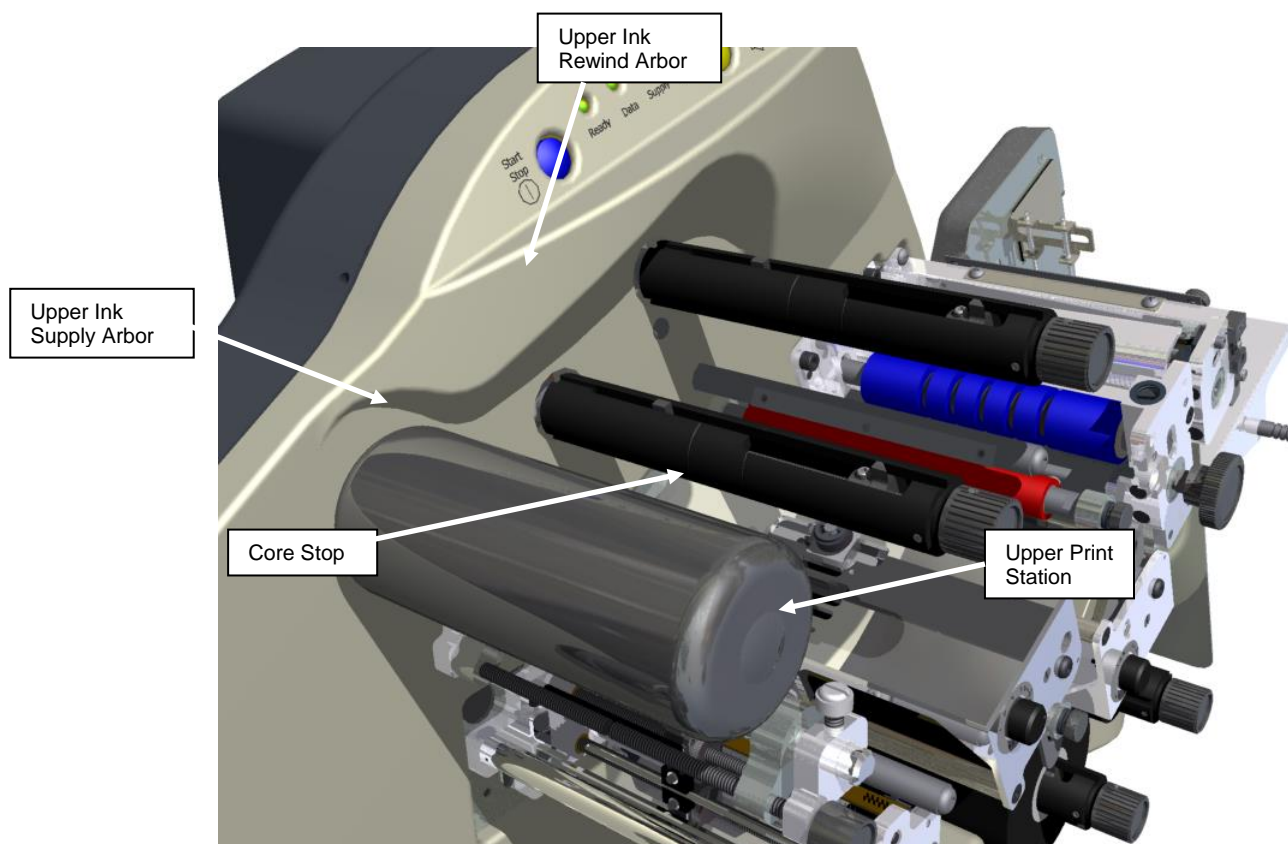

Figure 7. Upper Ink Supply and Print Stations - Unloaded
- b. If the front core locator is not exposed turn the black knob on the end of the arbor counterclockwise to bring it past the end of the core. To clamp the core rotate the black knob clockwise to center the core on the arbor. See Figure 7.